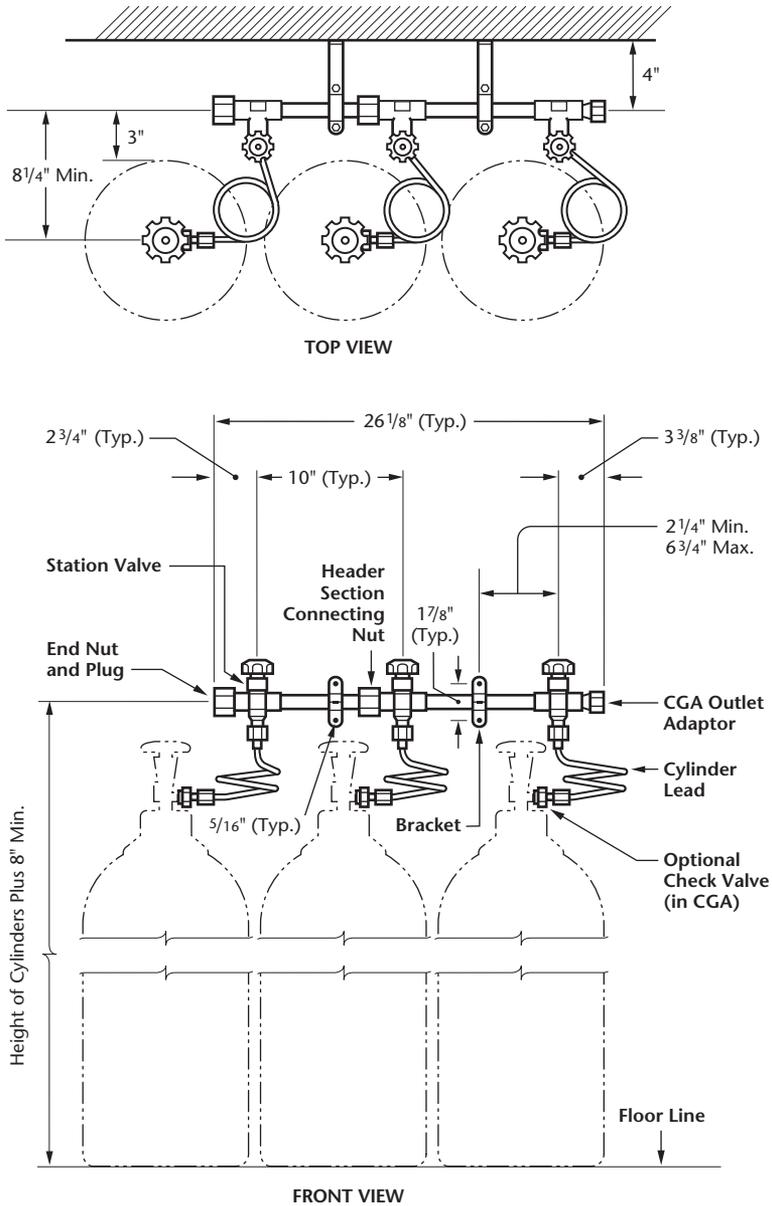

Figure 3 – Mounting Dimensions for a Single Row Manifold used on the Left Side of a Back-up Regulator System
5. Securely mount the manifold on a wall. Mounting dimensions for single-row manifolds are shown in Figure 3 (page 10).